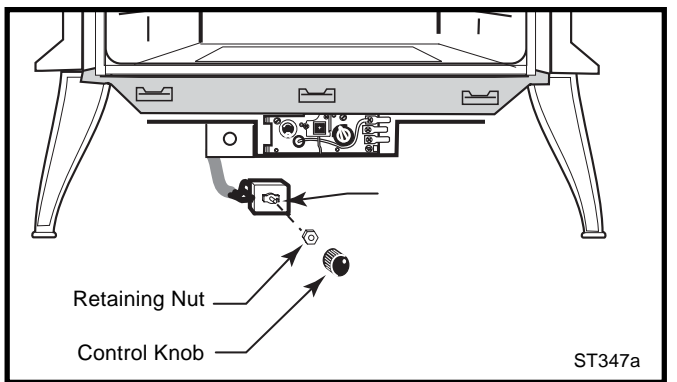

Fig. 20 Attach rheostat to left side of valve.
12. The rheostat control switch attaches to the left side of the valve bracket at the front of the stove. (Fig. 20)